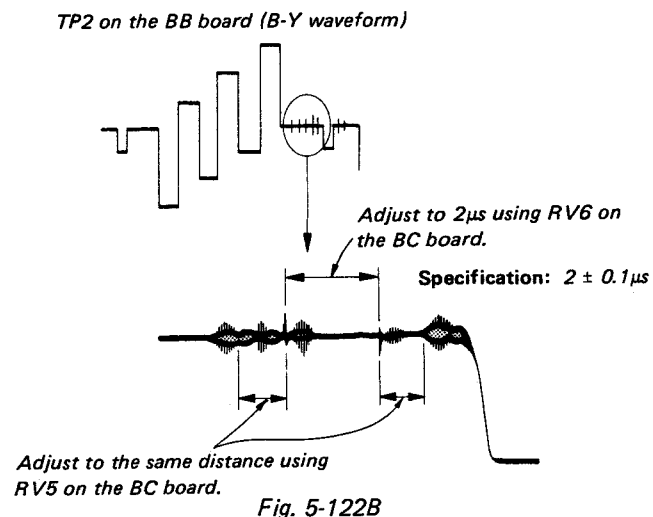

Fig. 5-122B
4. Adjust the color difference clamp pulse phase using RV5 on the BC board, and adjust the pulse width using RV6. (See Fig. 5-122B.)